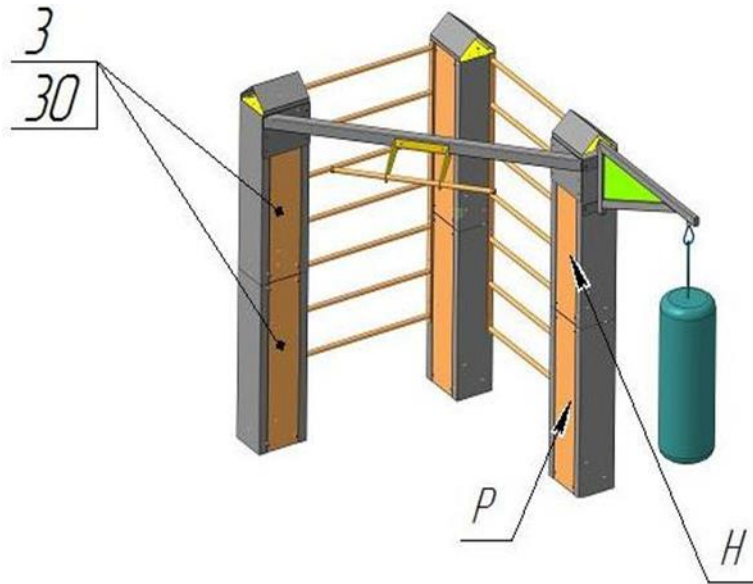

Fig. 5
3.9 Install the trim panel – position 3 with the help of screws № 30 (see Fig.5).